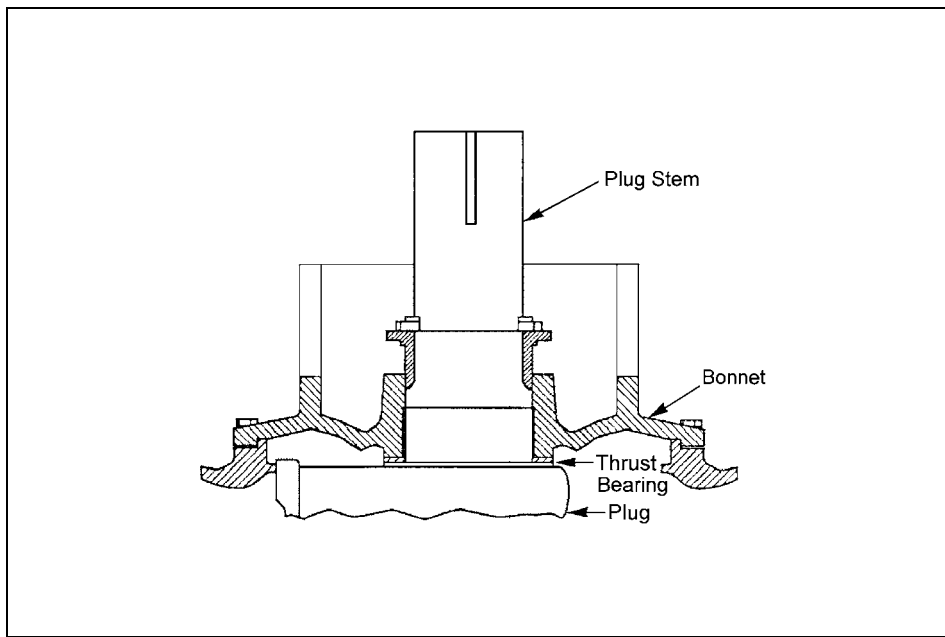

Figure 6 — Thrust Bearing Contacting Bonnet Inside of Valve
4. Slide the bonnet down the plug stem until it contacts the thrust bearing. (See Figure 6)